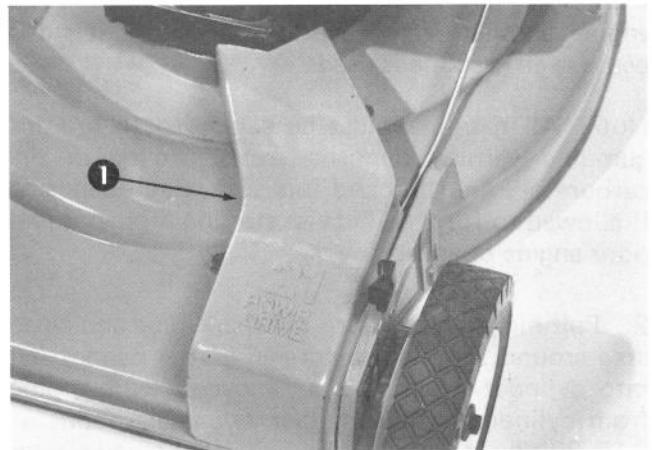

Figure 33
2. Remove two screws holding POW-R-DRIVE COVER (Fig. 33) and put cover aside.